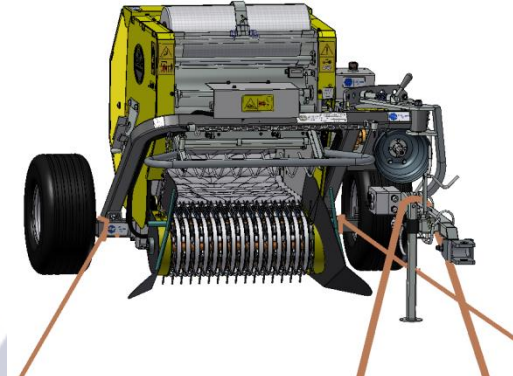

Fig. 16 Securing methods
- If the machine needs to be loaded on another means of transport (for example a trailer), apply the parking brakes on both wheels (see §7.4.1), secure it tightly and fasten it to the platform with anchor lines as indicated in Fig. 16.